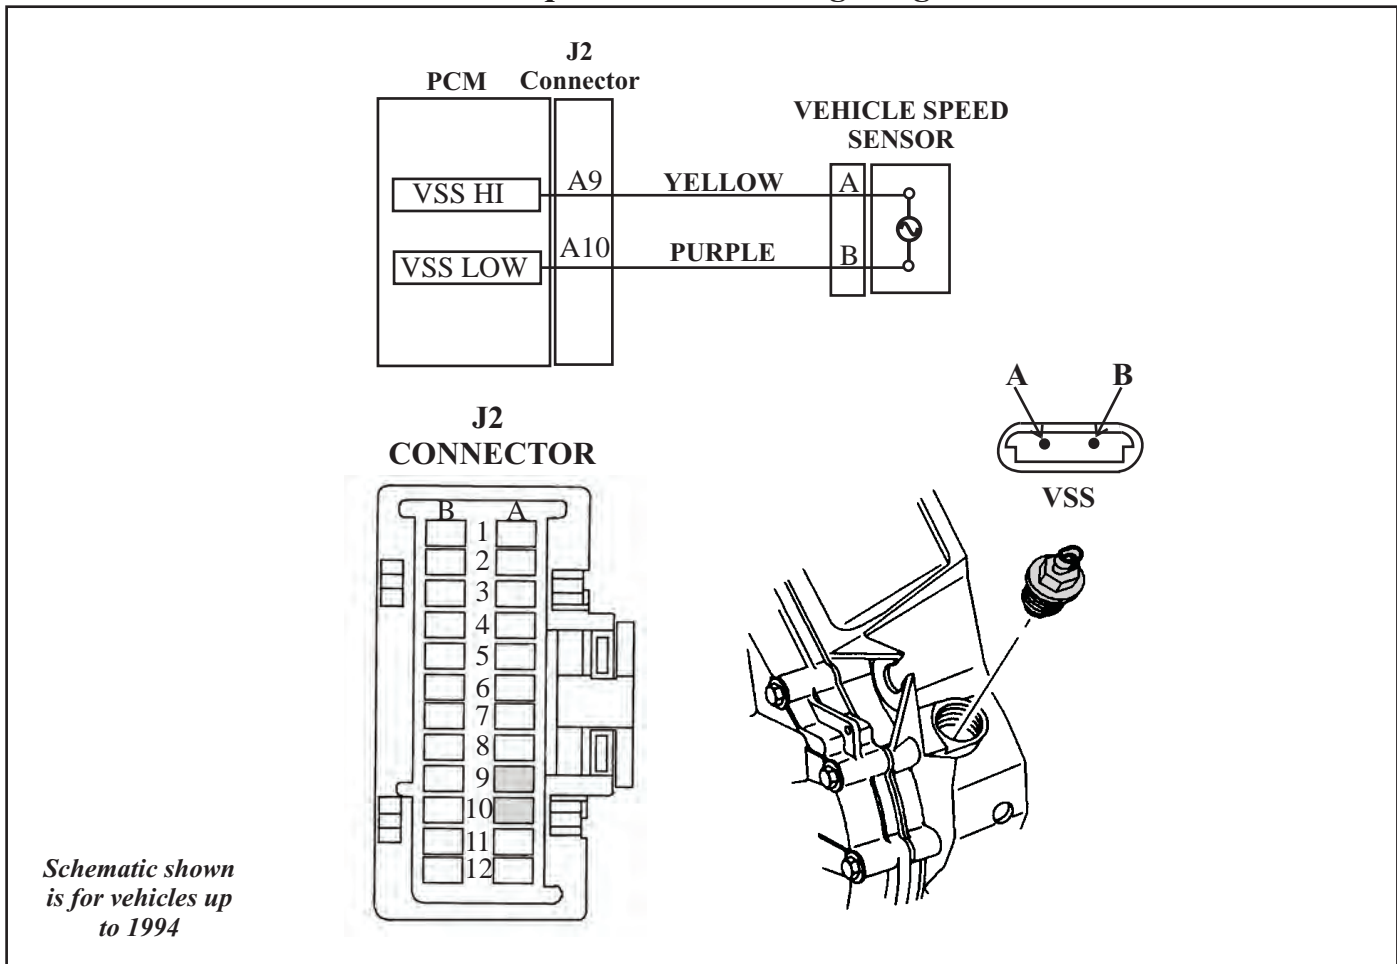

Figure 28
The Vehicle Speed Sensor (VSS) is located on the transaxle case by the differential (See Figure 28). This sensor is also a also a PM generator which produces a pulsing voltage (AC) whenever the vehicle speed is above 5 km/h (3 mph). These pulses occur sixteen times per each revolution of the differential housing and is converted to provide vehicle speed in miles per hour inside the PCM. These pulses can be viewed with a DVOM set to Hz. If a DVOM is set on AC volts, voltage would increase with speed. If this sensor is checked with an ohm setting, the resistance value should be between 800 to 1600 ohms. The Vehicle Speed signal can also be checked and viewed through a hand held scanner.